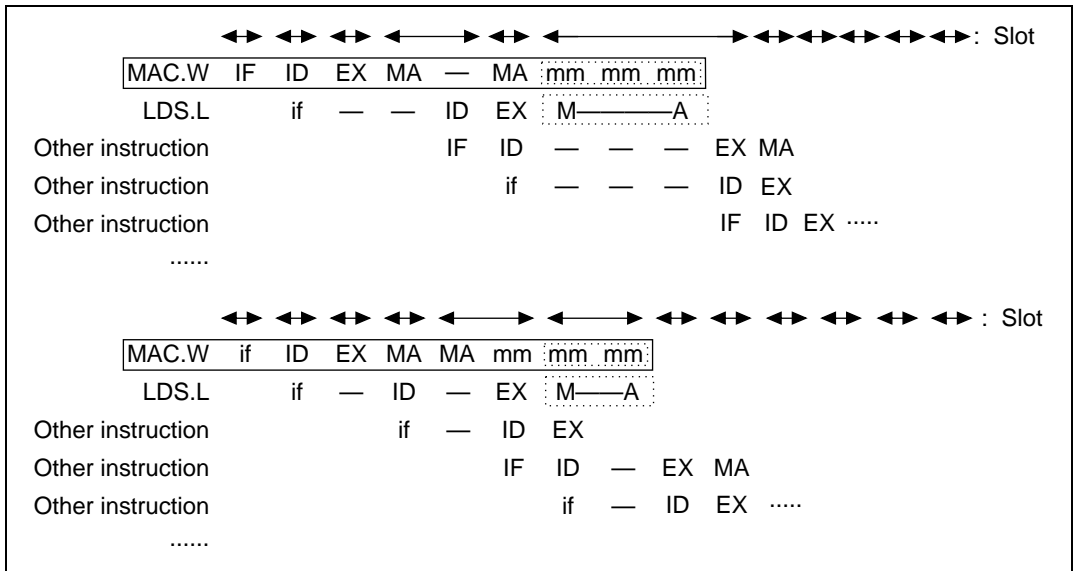

Figure 7.31 LDS.L (Memory) Instruction Immediately After a MAC.W Instruction
- When the contents of a MAC register are loaded from memory using an LDS instruction, an MA stage for accessing the memory and the multiplier is added to the LDS instruction, as described later. When the MA of the LDS instruction contends with the operating multiplier (mm), the MA is extended until the mm ends (the M—A shown in the dotted line box in figure 7.31) to create a single slot. The MA of the LDS contends with IF. Figure 7.31 illustrates how this occurs, assuming MA and IF contention.